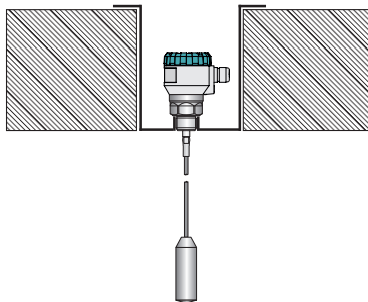

Fig. 10: Level meter installation on the roof of the concrete silo
- In the event that the thickness of the concrete **a** is greater than the diameter of the hole, **b** it is necessary to install the level meter into a countersink, see fig. 10.